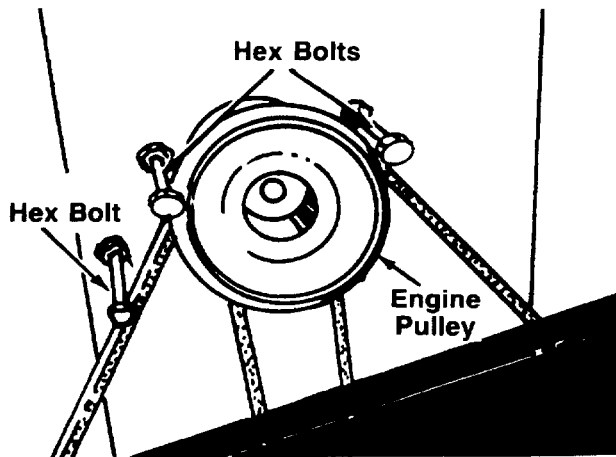

FIGURE 25.
Figures 25 and 28 through 30 are shown with the unit tipped up for clarity. It is not necessary to tip the unit to remove the belts.
2. Remove the three hex bolts (belt keepers) from the engine pulley belt guard. See figure 25.
Make certain hex bolts are reassembled as shown in figure 25.
3. Remove the three hex bolts (belt keepers) from the engine pulley belt guard. See figure 25.